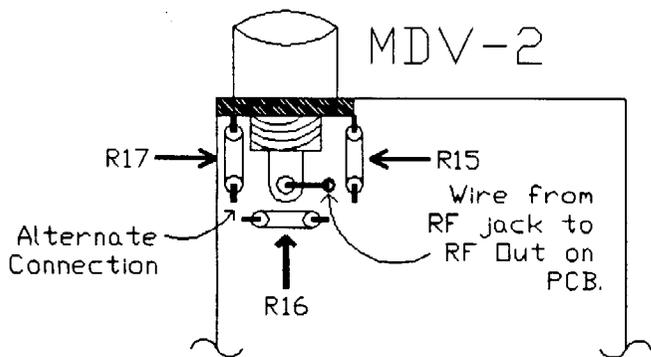

Figure 1
- MDV-2 Junction of R16 and R17 (on R16, this is the end closest to the main PCB; on R17, it is the end closest to the keyboard). This unit usually has to be removed to get the shield off the RF case (see Figure 1).